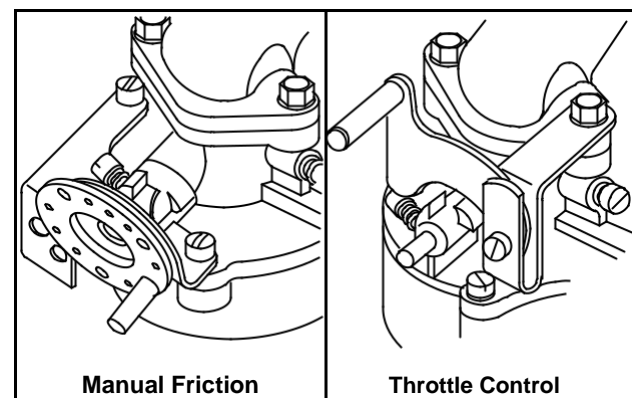

Fig. 282 - IDLING DEVICE AND THROTTLE CONTROL
2. For cold weather starting on governed idle engines. Throttle can easily be kept in a "near closed" position, while starting, which is most favorable for cold weather starts, Fig. 282.